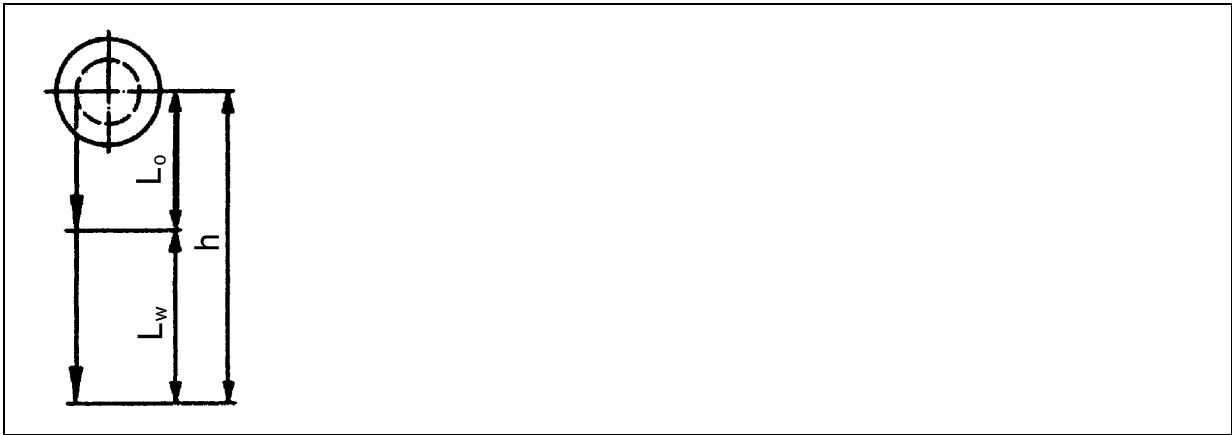

Fig. 3: Hoist operation
3.2 Cable pay-off vertically downwards (cf. Fig. 3)